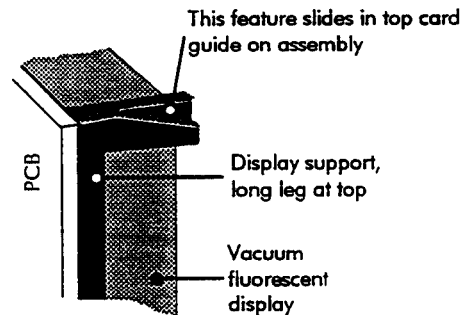

Figure 8-5 Display support
4. To replace the display PCB, position the display support as shown in figure 8-5 and insert bottom latches on PCB into corresponding slots in the new bezel.